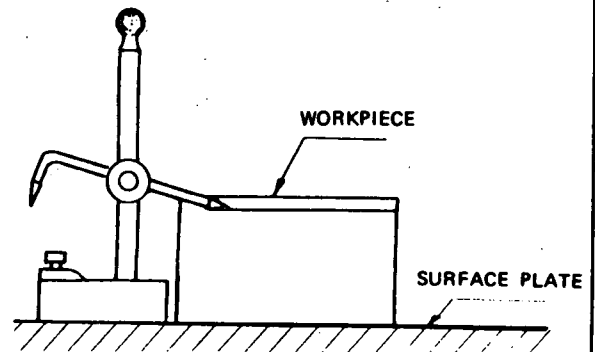

Fig. 1
- b) Mark all around the piece with the surface gauge so as to have a reference line (Fig. 1).